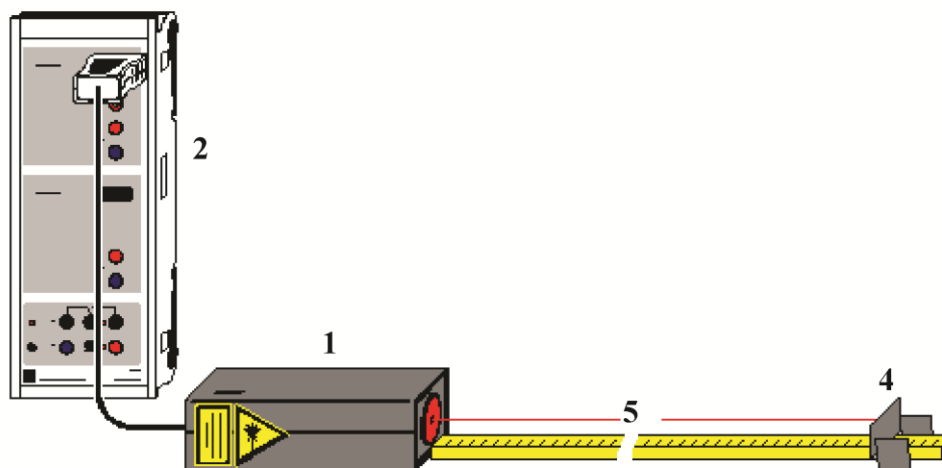

Fig.1. Experimental setup for determining the velocity of light.
Assemble the installation which is shown in Fig. 1.
Lay the laser motion sensor S (1) on the table with its broad side down, and connect it to the input of the CASSY (2). Connect the the CASSY (2) to PC by a USB cable. Put on the table a metal ruler (5) close to the laser motion sensor as shown on the Fig.1 (count starts from the sensor). Moving the end buffer (4) with a retroreflecting foil along the optical path make sure that the laser spot is completely falls in the reflective strips of paper up to a distance of 70 cm from the front of the laser sensor. If it is not, turn the laser motion sensor S and put it on the other side of the broad.